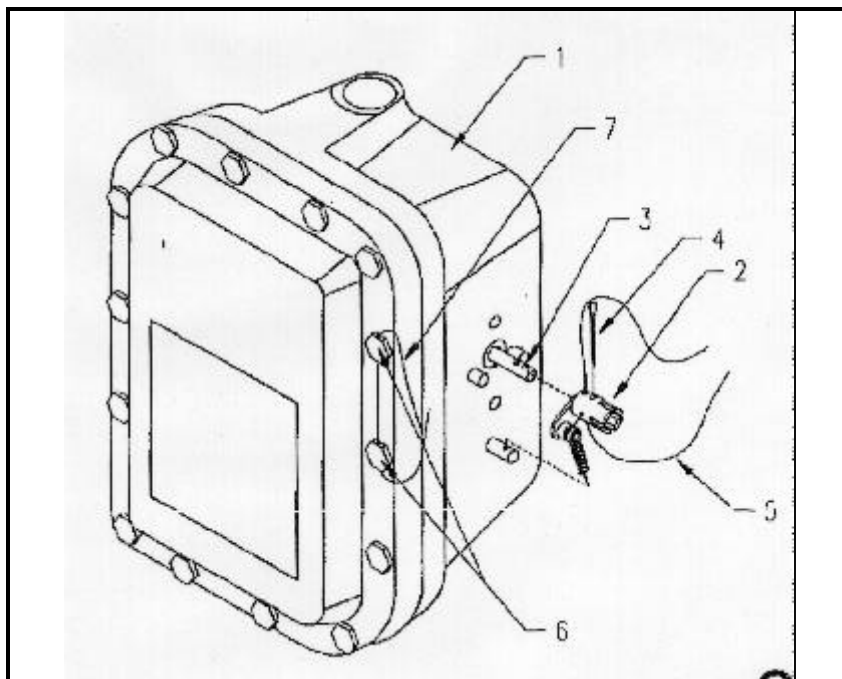

Figure 2
Accessibility to the configuration parameters via the handle switch is as follows: (see figure 2).
- S** The cotter pin (#4) and any existing handle seal (#5) must be removed to allow the handle shaft (#3) to rotate a full 360 degrees within the handle coupler (#2). AC power must not be present. Other Figure 2 elements are Housing (#1), Housing Cover Bolts (#6) and Sealing Wire (#7).
Les fonctions métrologiques du module Micon 500 sont aussi accessibles par une manette de commutation. Voici la marche à suivre: (voir figure 2).